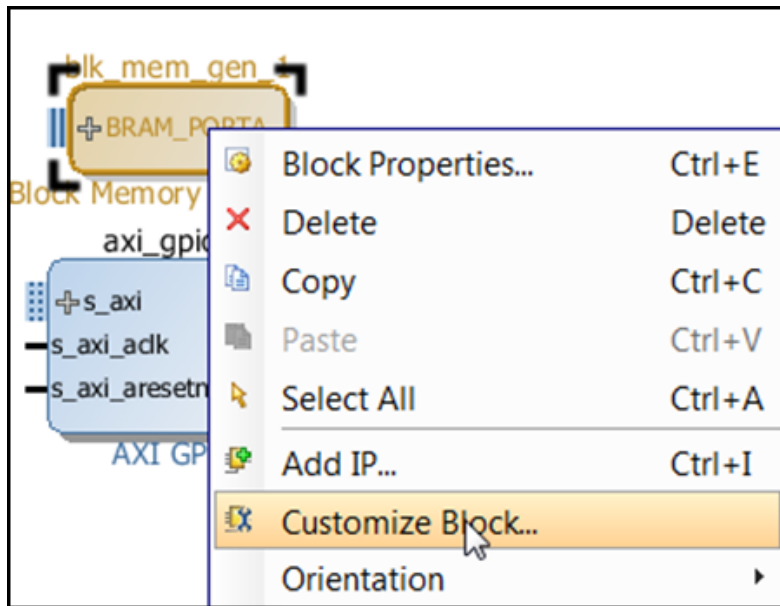

Figure 12: Customize Block Option
1. Double-click the Block Memory Generator IP, or right-click and select **Customize Block** (FIGURE 12).